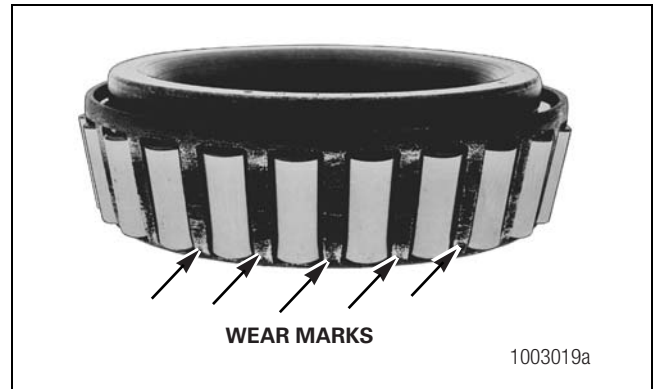

Figure 5.3
- You can see bright wear marks on the outer surface of the roller cage. Figure 5.3.